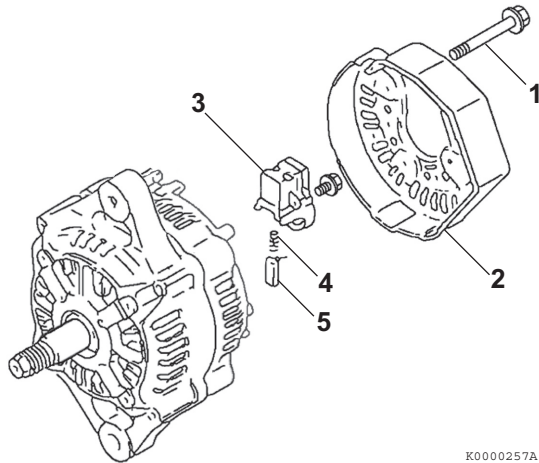

Figure 12-6
- Remove the three bolts (**Figure 12-6, (1)**) retaining the rear cover (**Figure 12-6, (2)**) to the rear frame assembly.
- Remove the brush holder (**Figure 12-6, (3)**). Remove the brush springs (**Figure 12-6, (4)**) and brushes (**Figure 12-6, (5)**).